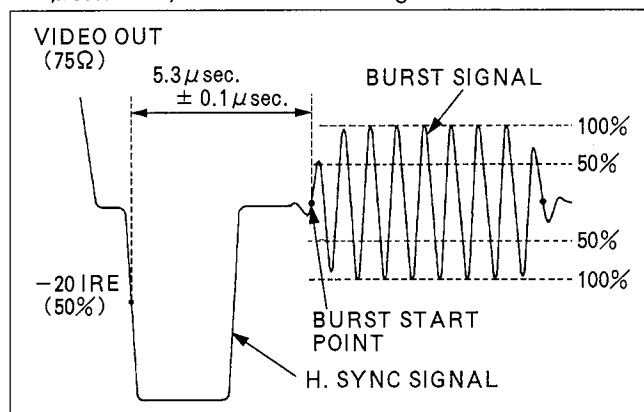

Figure E32
2. Adjust VR8805 so that the period of H. Sync (down edge) to Burst signal (Burst start point) becomes 5.3 μsec. ± 0.1 μsec. as shown in Figure E32.